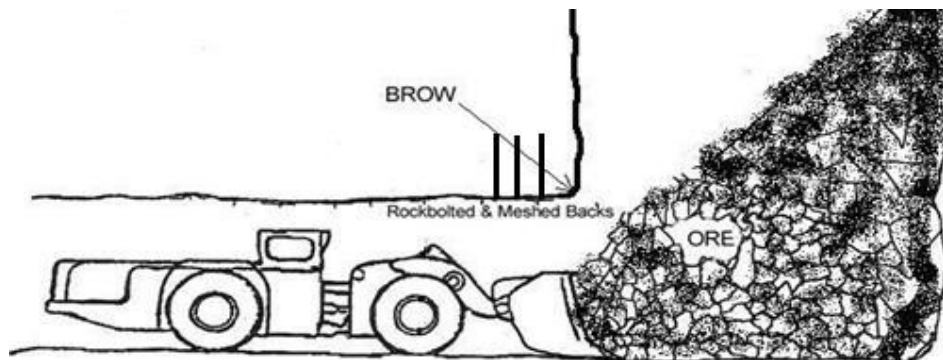

Fig.1. Stope brow
5.7 Stope Brow - the out bye edge of draw cross cut at the extraction level beyond. Ref. Fig 1
Fig. 1 a Brow Support